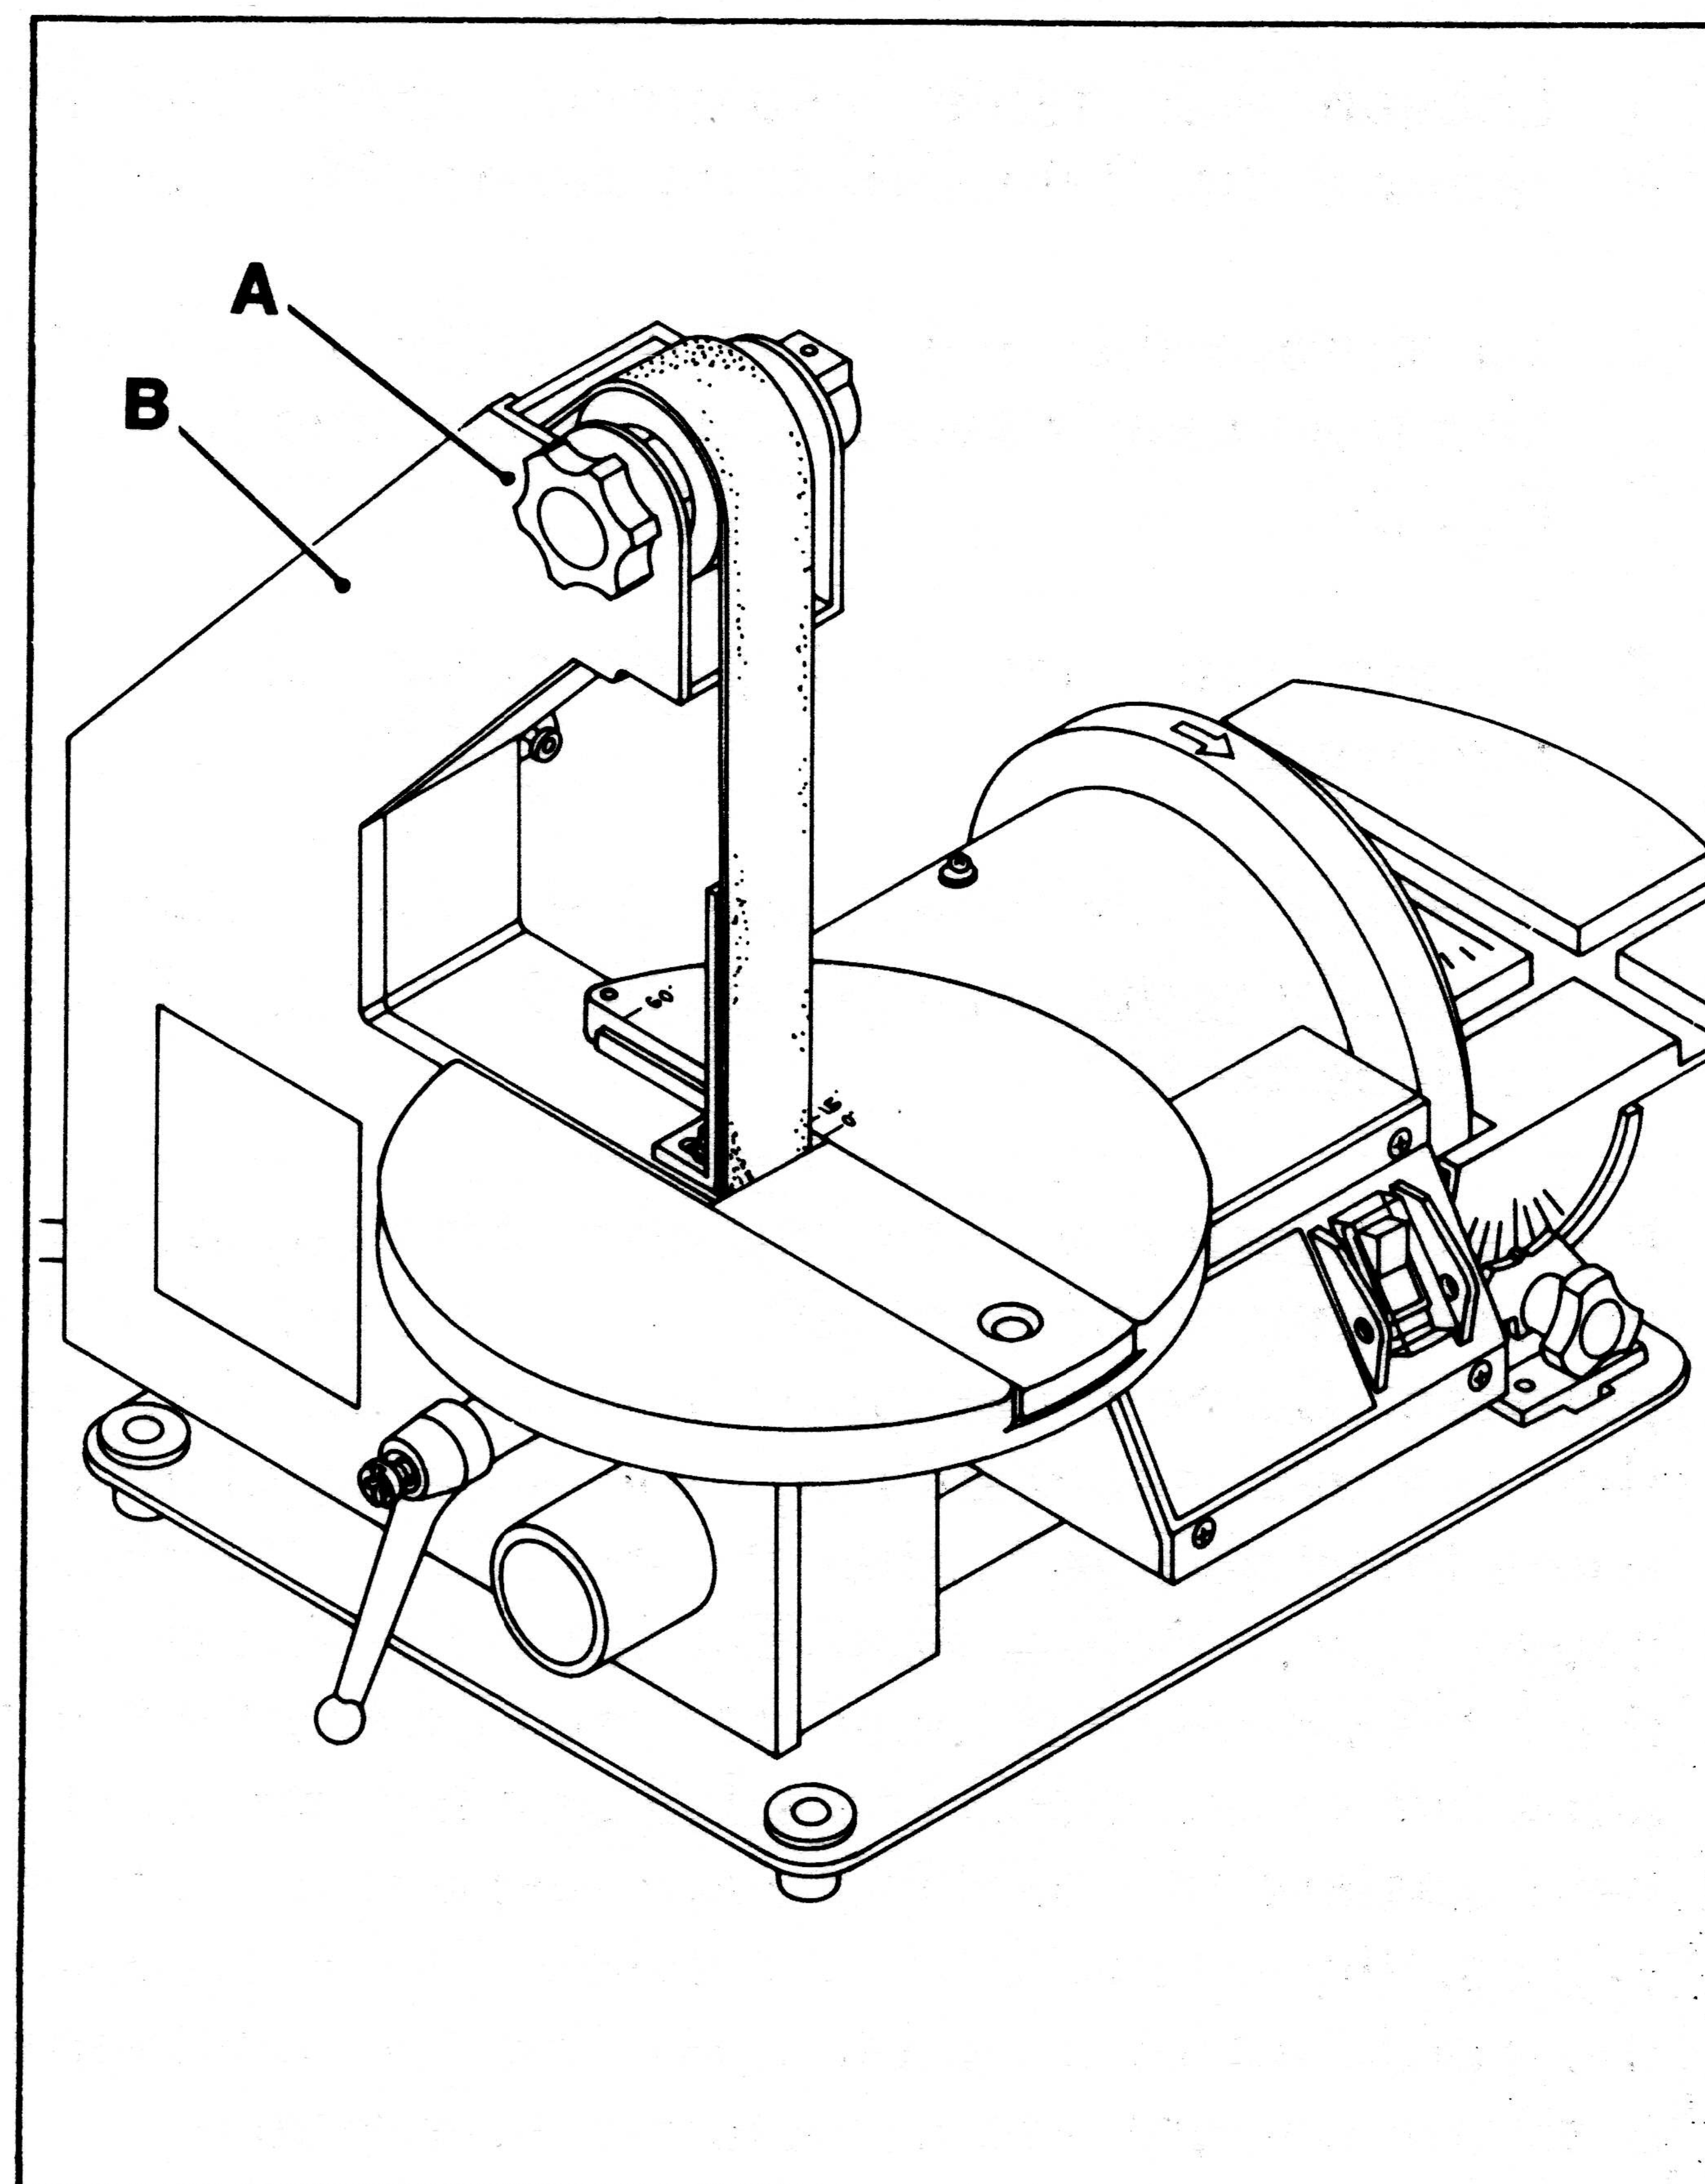

Fig. 17
1. Remove cover lock knob (A) Fig. 17, and remove side cover (B).